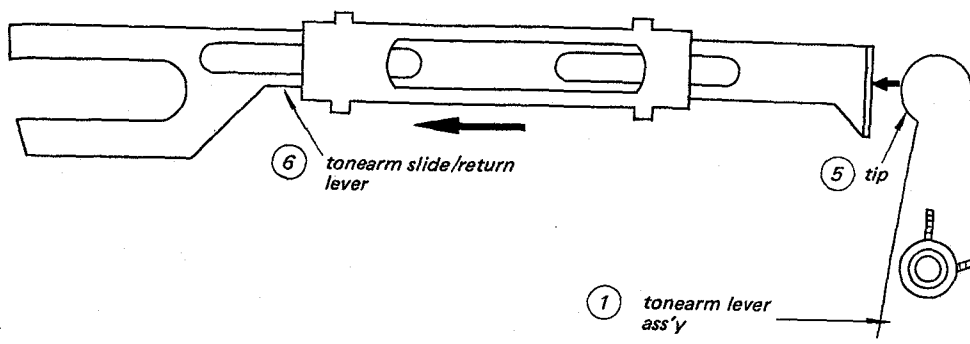
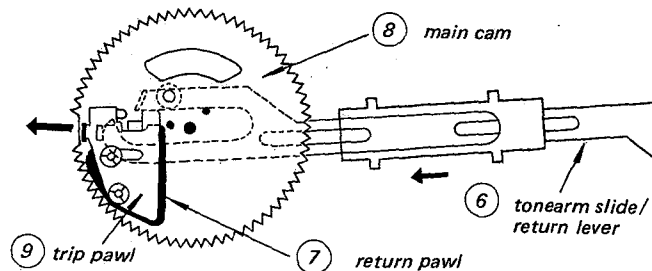
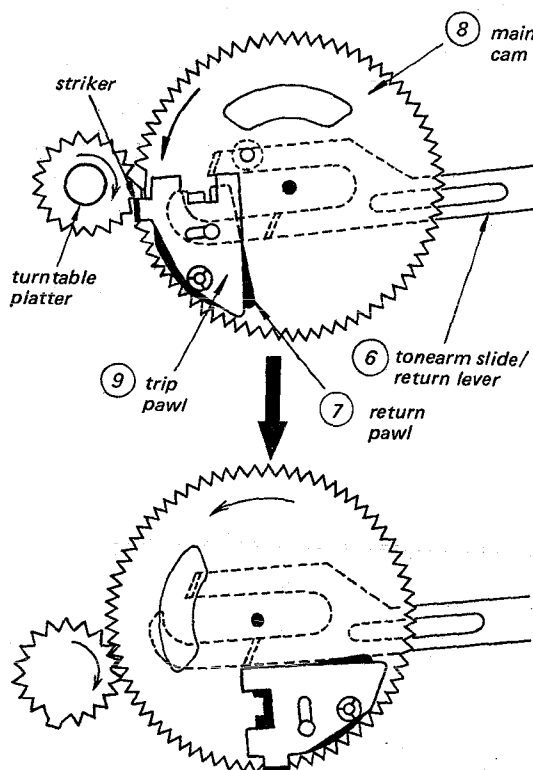

Fig. 1-2. Tonearm slide/return lever movement
Fig. 1-3. Return pawl movement
Fig. 1-4. Main cam movement
When the stylus approaches the lead-out groove of record, the tip ⑤ of the tonearm lever ass'y ① bears against the tonearm slide/return lever ⑥ and slides it toward the turntable center as shown in Fig. 1-2. When the stylus enters the first groove, the tonearm slide/return lever ⑥ pushes the return pawl ⑦ on the main cam ⑧ toward the turntable center along with the trip pawl ⑨ which is simply mounted on the return pawl ⑦. The trip pawl is moved by means of friction between the return pawl and the trip pawl as shown in Fig. 1-3. The trip pawl ⑨ enters path of the revolving-turntable shaft's tooth, when the stylus enters the eccentric lead-out groove as shown in Fig. 1-4.